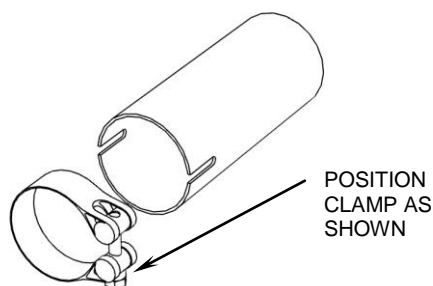

FIGURE 2
6. Place the supplied 27-61msc clamp onto the lower muffler slip then slide the rear headpipe / muffler assembly onto the front headpipe and into the rear exhaust port. Install rear headpipe to the rear cylinder using the stock acorn nuts from Step 3, but **DO NOT TIGHTEN**. See Figure 2 for clamp orientation.
11. To install the front heatshield, first slide the rear portion of the heatshield over the muffler, continue to slowly slide it forward pushing the front of the shield gently into place between the frame and motor (Hint: Spread the hose clamps apart slightly to make it easier to slide them over the muffler assembly and headpipes). Make sure the muffler clamp doesn't interfere with the heatshields and is aligned as shown in Figure 2. Snug the heatshield clamps but **DO NOT TIGHTEN**.